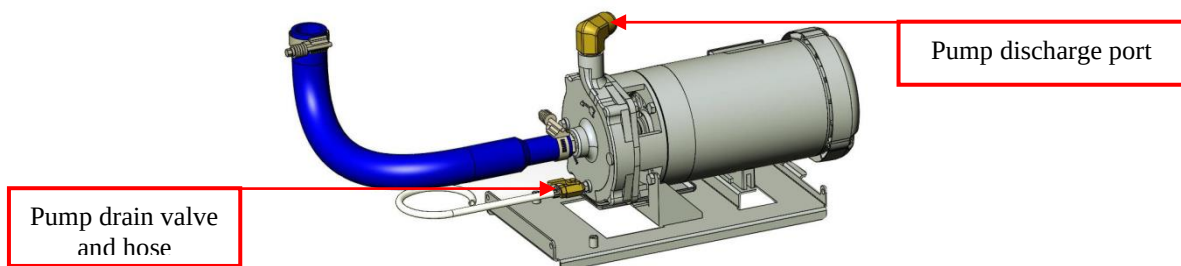

Figure 2 Pump drain & discharge detail
6. Drain coolant from tank & coolant loop (GC or PE side). Use a bucket to catch fluid from the pump drain hose and empty periodically so as not to overflow the bucket. See Figure 2 below.